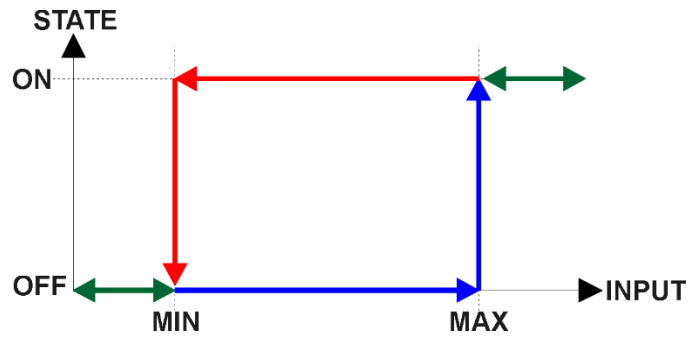

Figure 5 – Analog Input Read as Digital
There is another type of 'digital' input that can be selected when 6112h is set to 20 = Analog On/Off. However, in this case, the input is still configured as an analog input, and therefore the objects from the Analog Input (AI) block are applied instead of those discussed above. Here, objects 2010h, 2020h and 2030h are ignored, and 6020h is written as per the logic shown in Figure 5. In this case, the MIN parameter is set by object 7120h **AI Scaling 1 FV**, and the MAX is set by 7122h **AI Scaling 2 FV**.